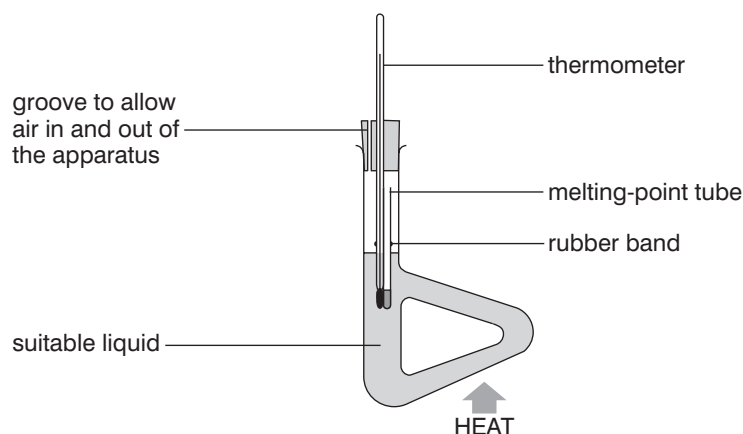

Figure 2 Melting-point apparatus
- 14 Fix the tube into position in the melting-point apparatus as shown in Figure 2.